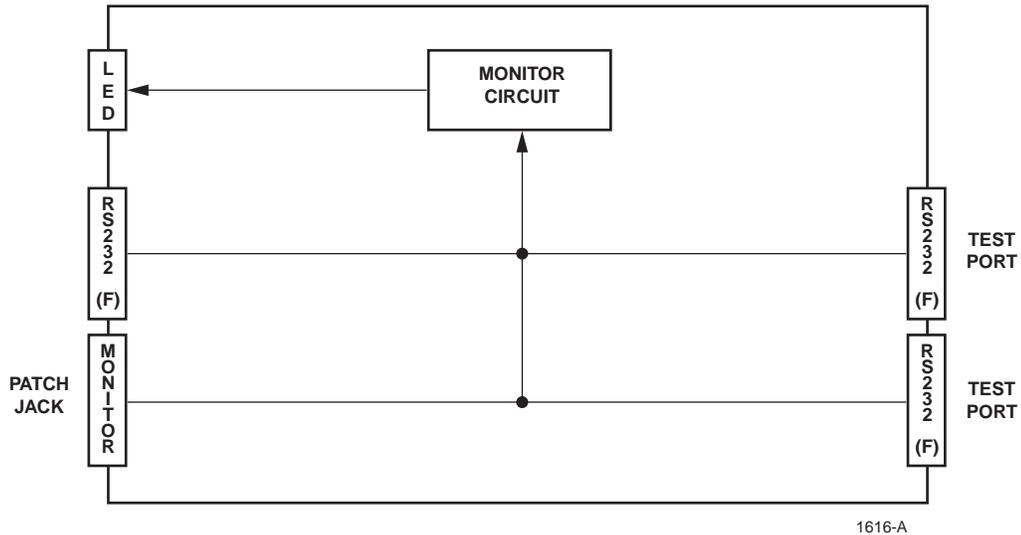

Figure 2-11. PSM-12 Test Module with LED Monitoring
Test Module PSM-12 provides the user with RS-232/V.24 interface capabilities, status indicators for eight (8) leads and alarm conditions. A simplified block diagram illustrating the test module connections is shown in Figure 2-11. Two female RS-232/V.24 TEST ports, located on the rear of the test module, are available for connecting the test equipment. Another female RS-232/V.24 port and a patch jack are located on the module front panel. All four connectors are hardwired in parallel.